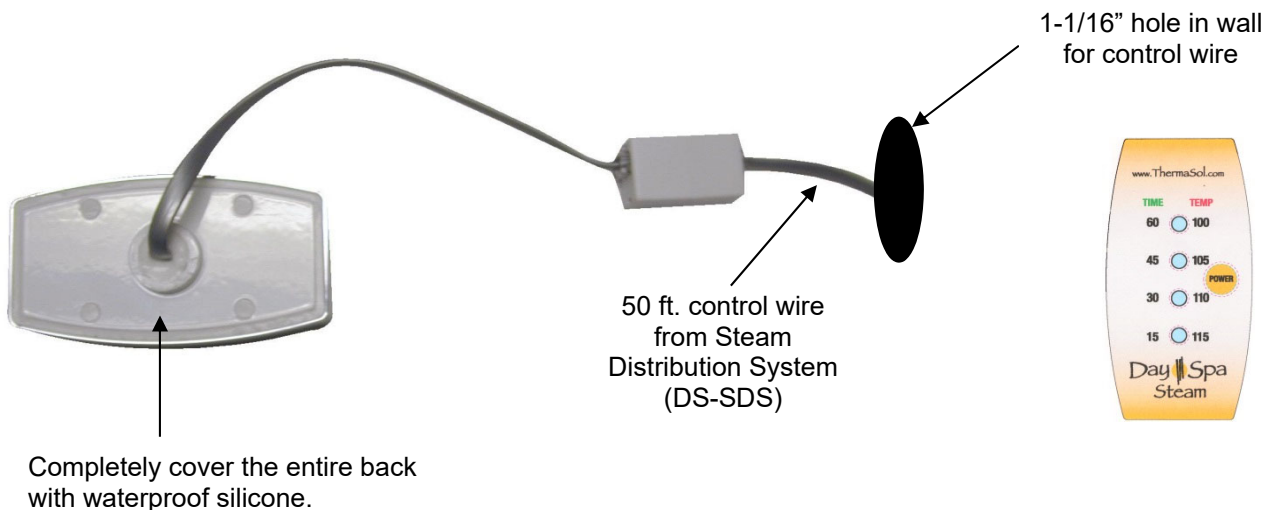

Figure 6
6. Test the touch pad to ensure it is properly connected. If any problems arise, call **THERMASOL-Technical Support (800) 776-0711**.
7. **THESE STEPS MUST BE TAKEN OR YOUR WARRANTY WILL BE VOID**. Coat the entire control back with supplied waterproof silicon. Completely seal the control to the wall so moisture does not get behind it. Place the control on the wall pressing firmly. You may need to tape the control into place until the silicone dries. Be careful not to harm the wall and/or control with the tape. **(Figure 6)**